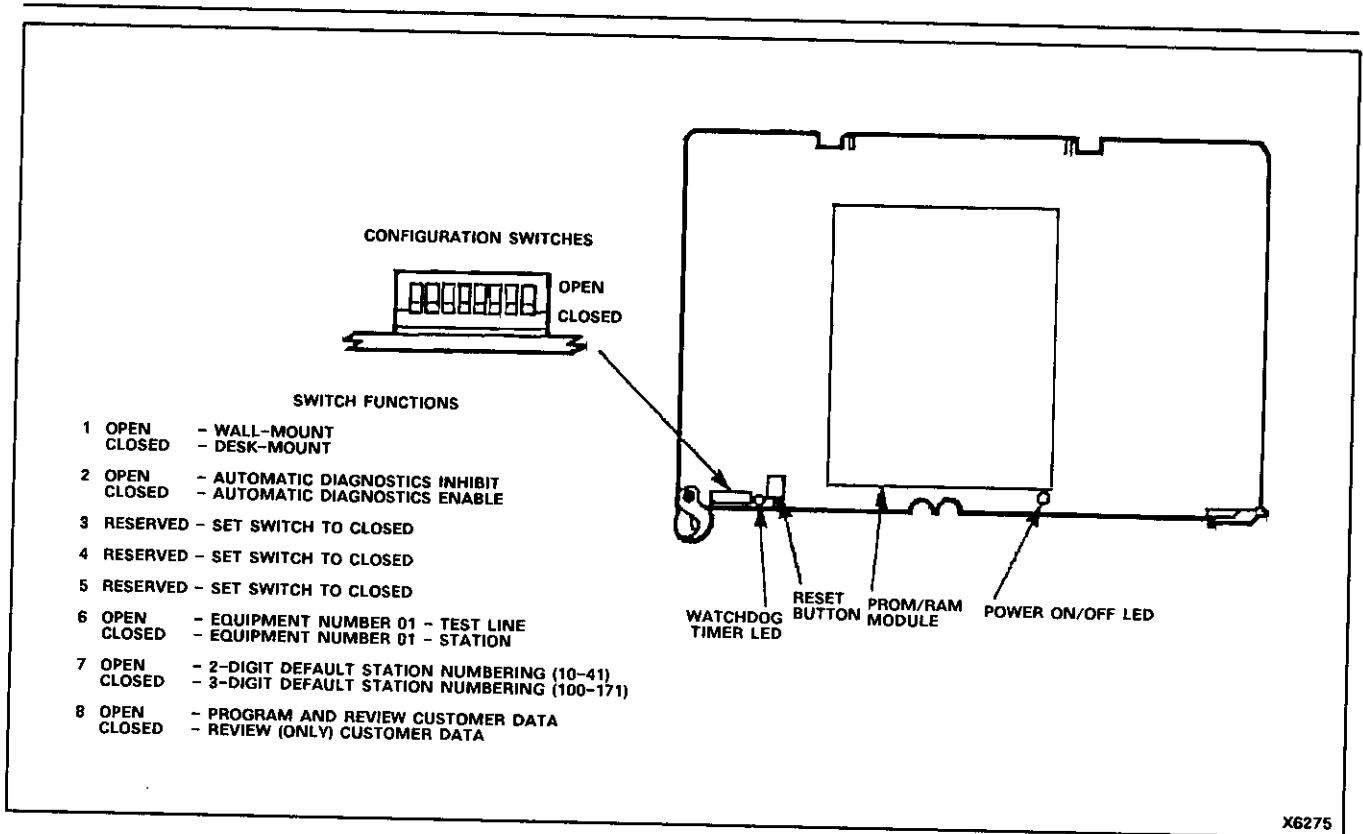

Figure 2-1 CPU II Card
1. Set Switch 8 on the CPU II Card to OPEN to enable programming (refer to Figure 2-1). Dial the Programming and Special Functions Access Code (default is 70 or #).
2.04 Programming of the SX-20 system may be performed from either the Attendant Console or the Test Line (but not both simultaneously). The station with Equipment Number 01 acts as the Test Line when Configuration Switch 6 on the CPU II Card is set to OPEN (refer to Figure 2-1). When programming from the Test Line, the information is displayed on the Remote Display and the Cabinet Display only. The console continues to display its current call status. When programming from the Attendant Console, the information is displayed on the Console Call Status Display only. The Remote Display
- Set Configuration Switches on the CPU II Card 1, 6, and 7 to desired positions (refer to Figure 2-1).
2.10 To exit from the Programming Mode (i.e., after all data has been entered or reviewed), press the RELEASE key on the Attendant Console or replace the handset. When programming is complete, set Configuration Switch 8 on the CPU II Card to CLOSED (refer to Figure 2-1). The system operation returns to normal; data may be reviewed.